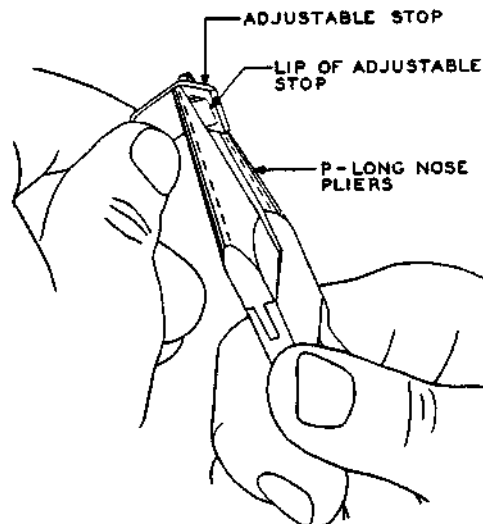

Fig. 11 - Method of Adjusting Adjustable Stop
(1) If the adjustable stop does not hold the reed in the desired position on all gauges except the No. 70G gauge, adjust the lip of the stop with the long-nose pliers as shown in Fig. 11. Do not adjust the stop sufficiently to cause it to bind excessively on the scale.